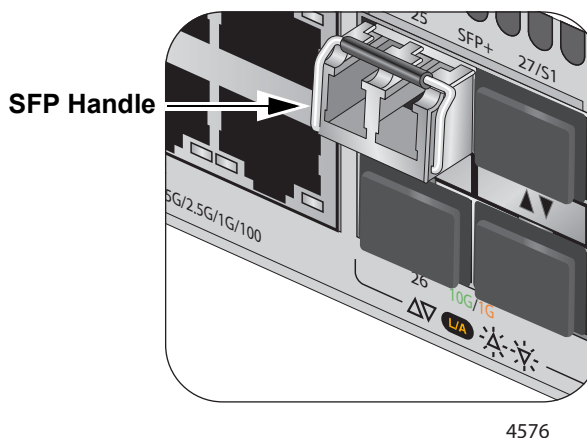

Figure 47. Positioning the SFP or SFP+ Handle in the Upright Position
7. Verify the position of the handle on the transceiver. If the transceiver is in a top slot, the handle must be in the upright position, as shown in Figure 47. If the transceiver is in a bottom slot, the handle must be in the down position.